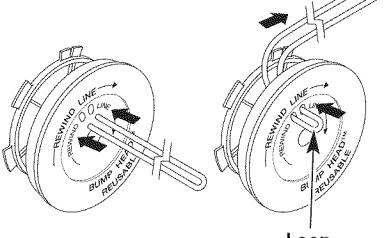

Fig. 17
- Take approximately 20 feet (6 m) of new trimming line, loop it into two equal lengths. Insert each end of the line through one of the two holes in the inner reel (Fig. 17). Pull the line through the inner reel so that the loop is as small as possible.
The idle speed of the engine is adjustable. An idle adjustment screw is between the air filter cover and the engine starter housing (Fig. 17).
2. Release the throttle trigger and let the engine idle. If the engine stops, insert a small philips screwdriver into the idle adjustment screw (Fig. 17). Turn the idle speed screw clockwise 1/8 of a turn at a time (as needed) until the engine idles smoothly.